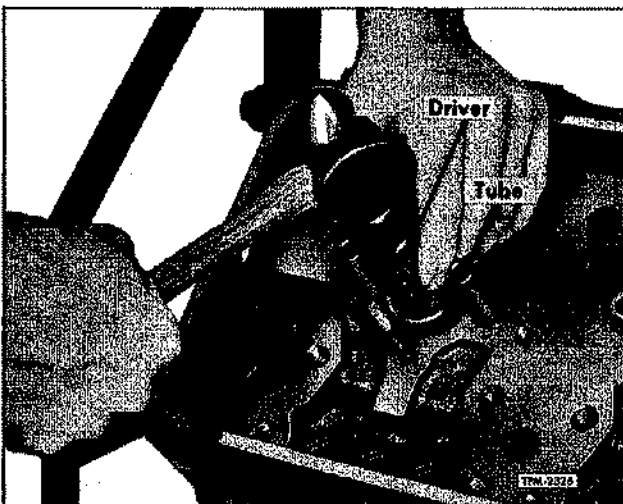

Figure 79—Installing Injector Copper Tube in Cylinder Head (Operation No. 1)
2. Position driver through injector tube, then insert pilot into small opening of injector tube, and thread pilot into driver (fig. 79).
at upper end of tube is against the seal ring, and lower portion of tube is against bevel seat in the bottom of cylinder head tube bore (fig. 79).